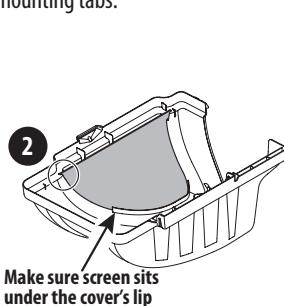

Figure 11
- Make sure to feed the screen under the lip. Clip in the other side by pushing the screen into the provided cut-out (2). See Figure 11.